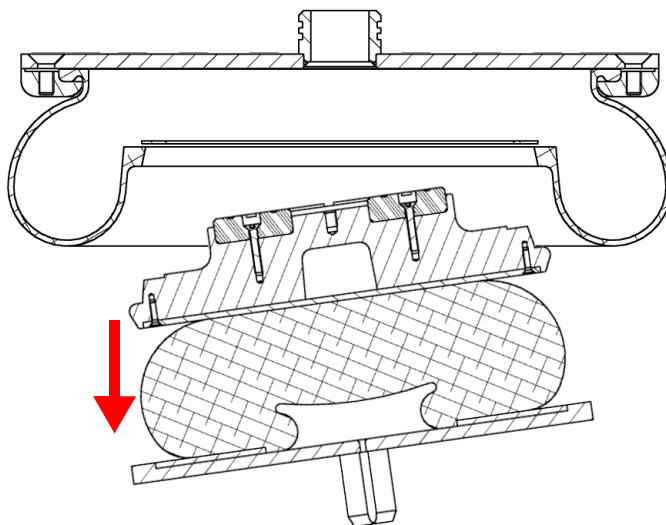

Figure 8: Loosen of the additional spring
- If the complete system is lifted, the additional spring may separate from the air spring bellows (Figure 8).